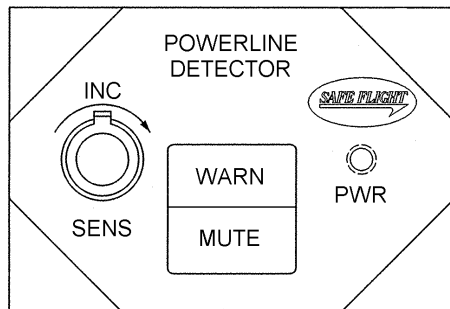

Figure 7-1. PDS Display
1. The Powerline Detector display and controls are shown in Figure 7-1.